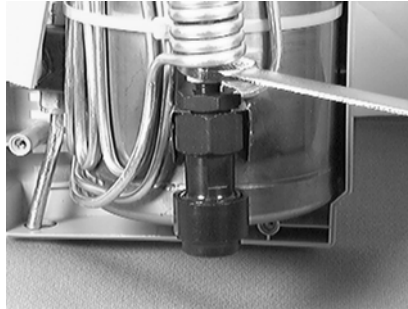

Figure 5-19
2. Use a $\frac{9}{16}$ -in. open-end wrench to disconnect the tube nut **7** at the female adaptor **4** (Figure 5-19).